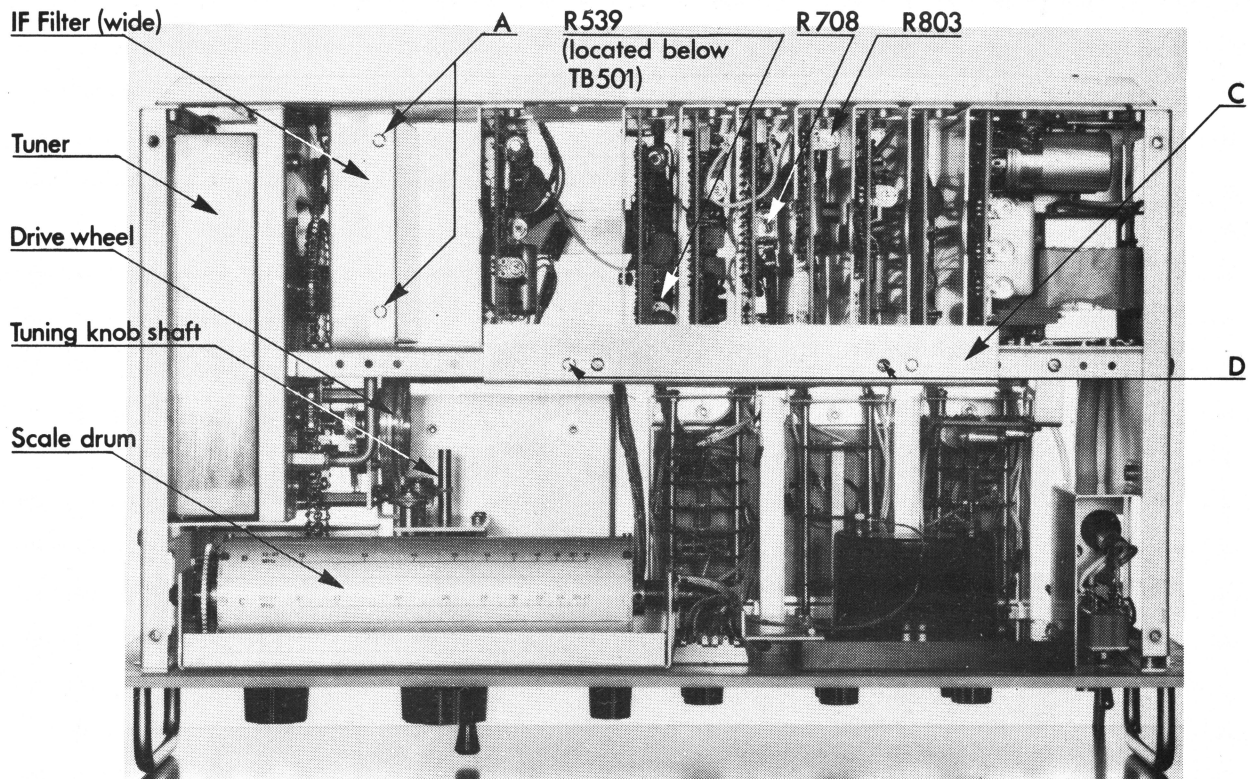

Fig. G6
- 11) Using a trimming tool, adjust the potentiometer R708 (shown in Fig.G6) until the DC DVM indicates 943 mV.
- 6) Using a trimming tool, adjust the potentiometer R803 (shown in Fig.G6) until the DC DVM indicates 0 V  $\pm$ 10 mV.
- 8) Adjust the AF AMPLIFIER III-V printed circuit board as set out in AF AMPLIFIER III-V PC-board, page G10, below, items 1 to 12.
- 9) Adjust the AF DETECTOR printed circuit board as set out in AF DETECTOR PC-board, page G10, below, items 1), 2) and 3).